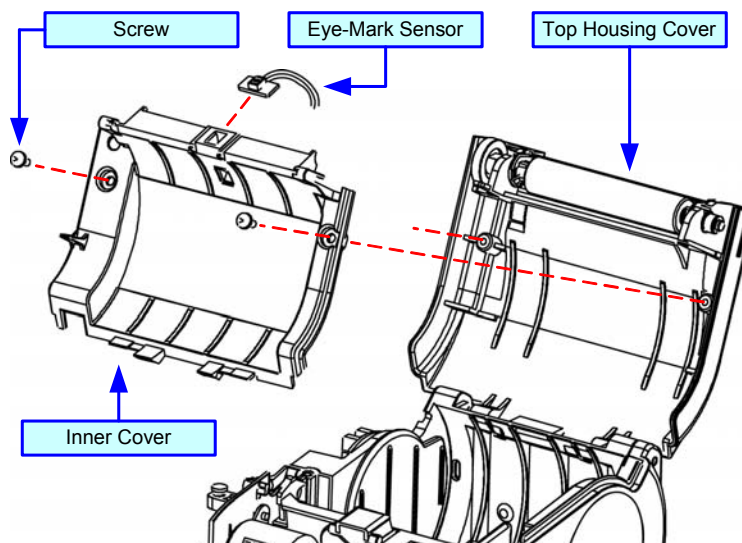

Figure 7-8a, Eye-Mark Sensor Replacement
- 3 Remove two screws securing the inner cover to the top housing cover (Figure 7-8a).
- 7 Secure the inner cover to the top housing cover using the two screws (Figure 7-8a).